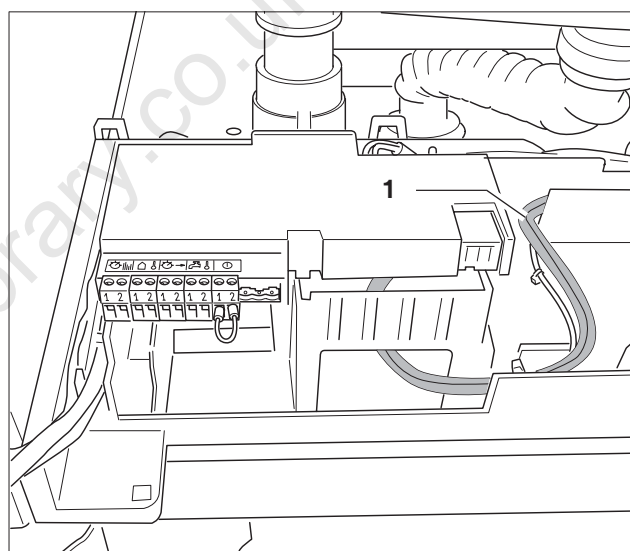
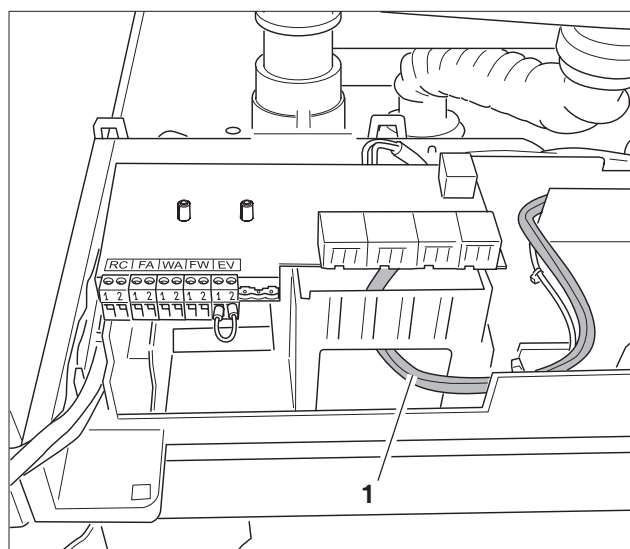
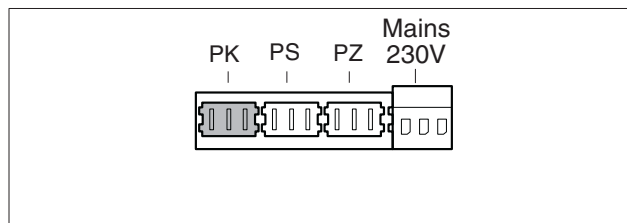

fig. 52 230 VAC cable of the pump
fig. 53 Route the 230 VAC pump cable
fig. 54 Terminal strip - external heating pump 230 V (connection colour green)
The maximum electrical load that can be connected to the free 230 VAC connection cable of the pump (fig. 52, **item 1**) and to the green EP connector (fig. 54) is 250 watts in total. If a load of more than 250 watts is to be connected, this is possible by using an additional 230/230V relay, which has to be installed by a registered installer/electrician.
- Unwind the 230 VAC cable (fig. 52, **item 1**) and route it out of the boiler (fig. 53).
- Connect the external pump, if available, (not the pump of the pump group) to the green PK terminal (fig.54).